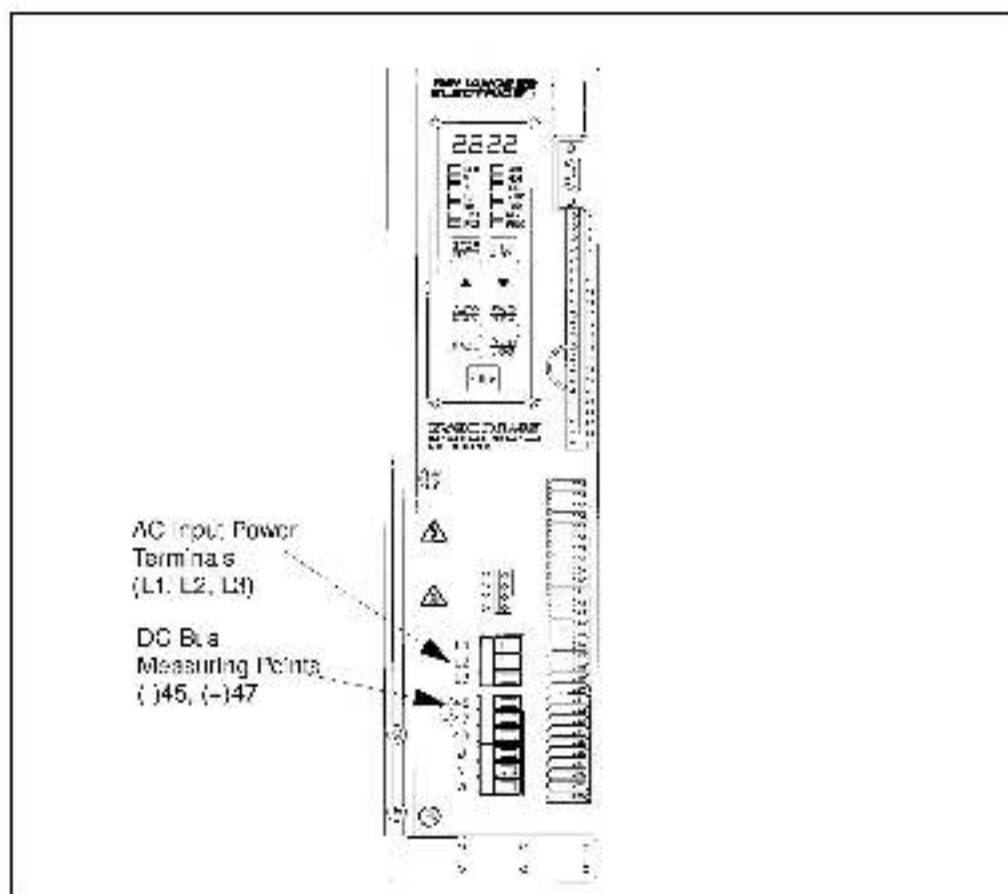

Figure 10.1 – DC Bus Voltage Terminals (2 to 15 Amp Drives)
Step 4. Use a voltmeter to verify that there is no voltage at the drive's AC input power terminals (R/L1, S/L2, T/L3). Refer to figure 10.1, 10.2, or 10.3 for the location of these terminals.
- b. Use a voltmeter to measure the DC bus potential at the DC bus power terminals (+)45, (-)47 shown in figure 10.1, 10.2, or 10.3.